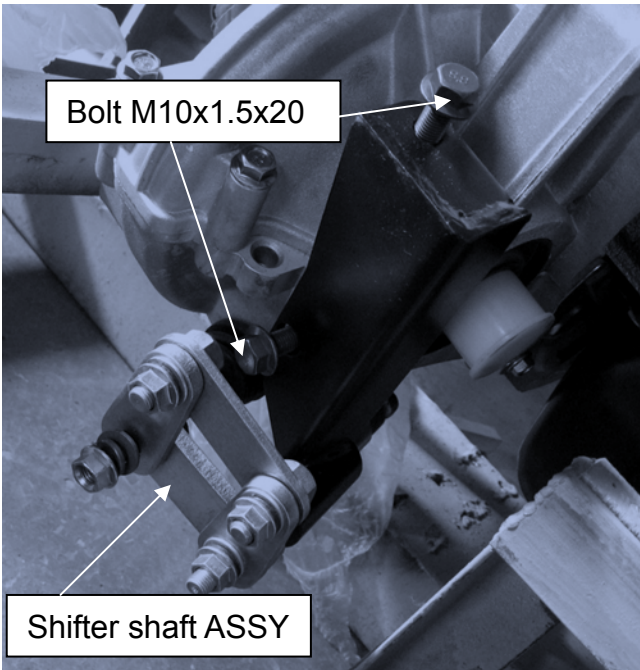

Figure 74
3) Install the shifter shaft ASSY finished above to transmission. (See Figure 74)